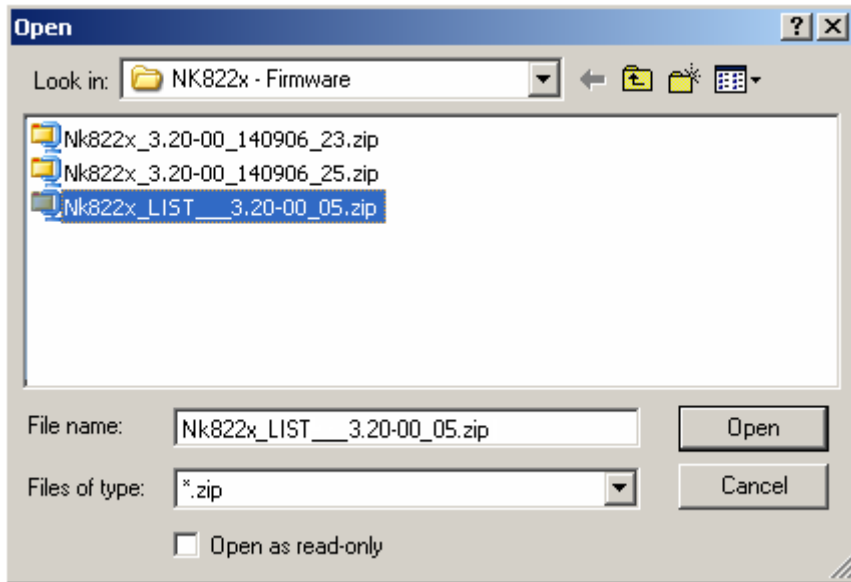

Fig. 10 Opening the new NK822x firmware files
- And finally click **Open** (Fig. 10).